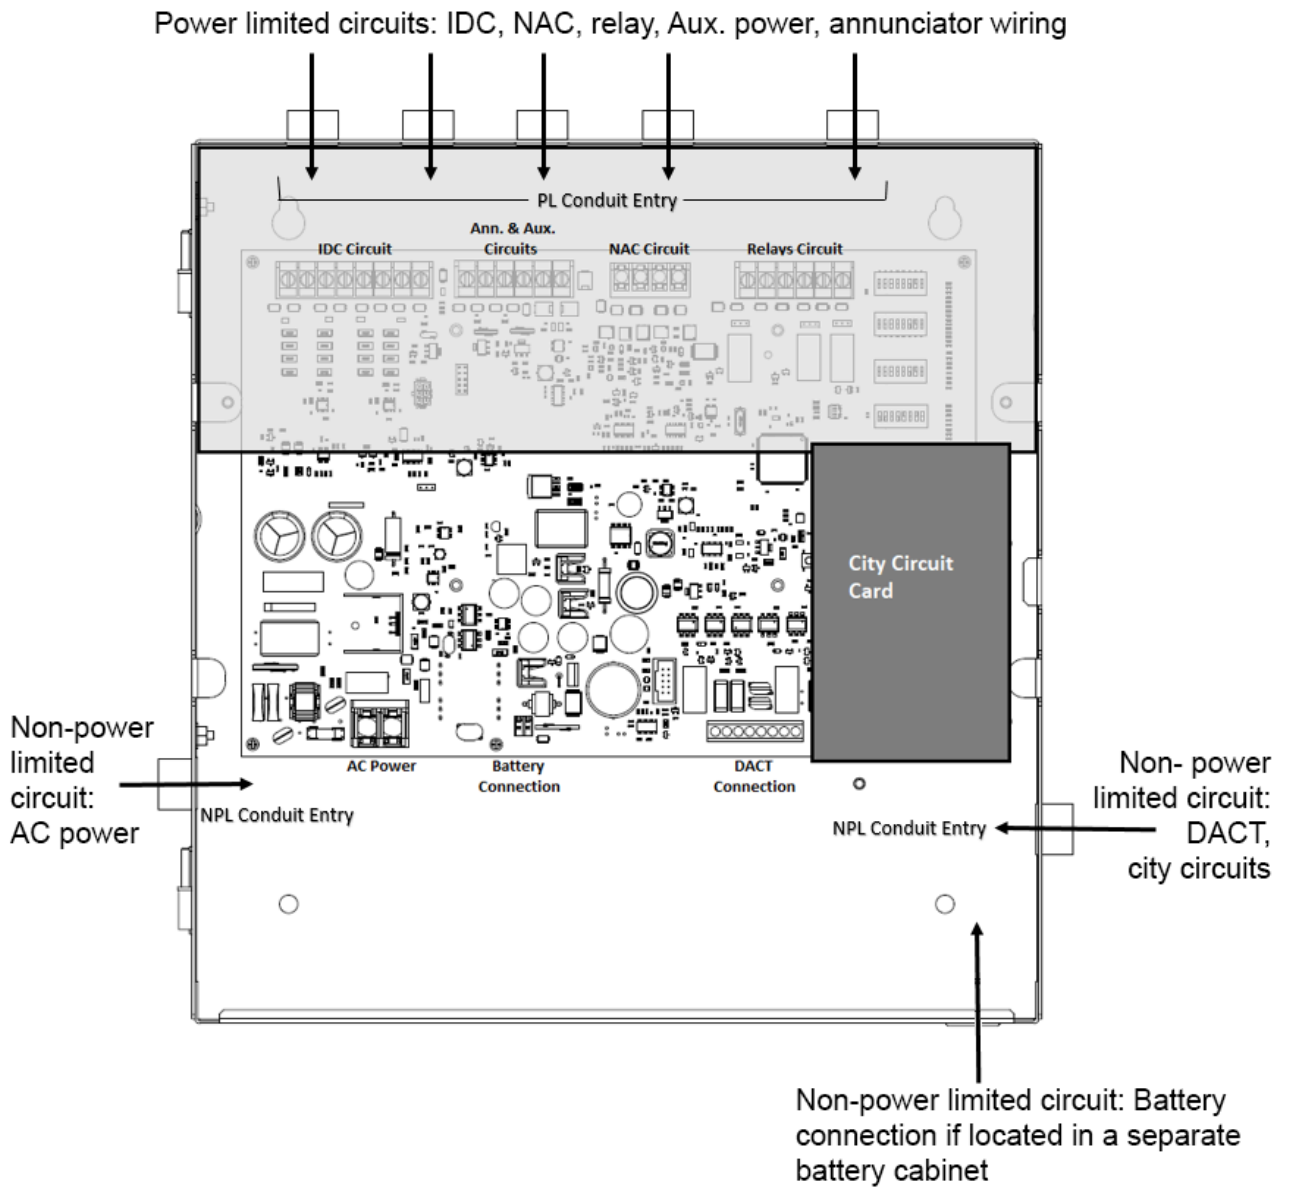

Figure 7: Power limited (shaded) and non-power limited wiring areas
1. Install and route PL field wiring, for example, IDC, NAC and Aux, in the shaded areas shown in Figure 7.